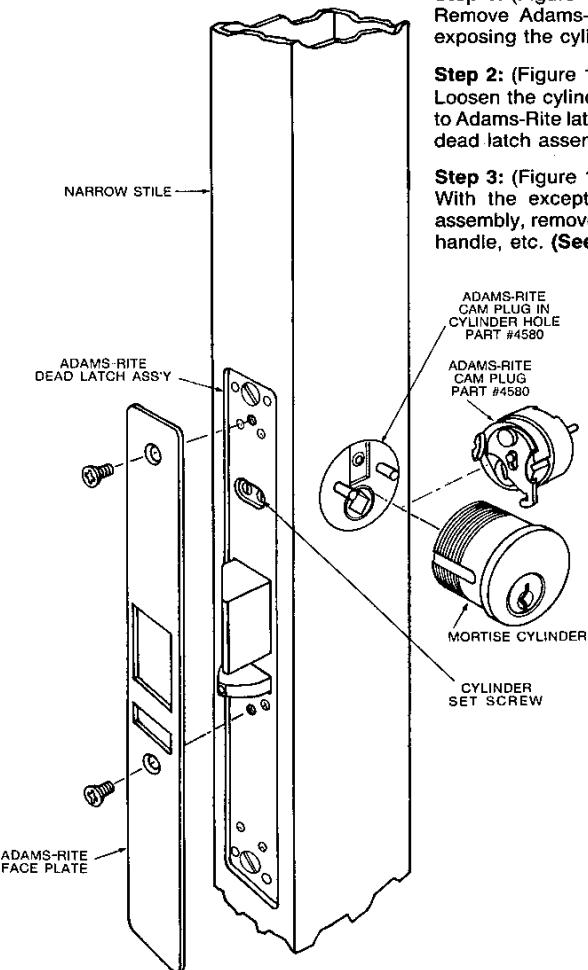

FIGURE 1
**Step 1:** (Figure 1)
Remove Adams-Rite face plate from edge of door exposing the cylinder set screws. (See Fig. 1)
**Step 2:** (Figure 1)
Loosen the cylinder set screw (securing key cylinder to Adams-Rite latch) and remove the cylinder from the dead latch assembly. (See Fig. 1)
**Step 3:** (Figure 1)
With the exception of the Adams-Rite dead latch assembly, remove all other hardware from door, knob, handle, etc. (See Fig. 1)
### Step 13: (Figure 1)
Re-install Adams-Rite dead latch assembly. Re-install Adams-Rite cam plug or plugs. (Do not tighten cylinder set screw.) (See Fig. 1)